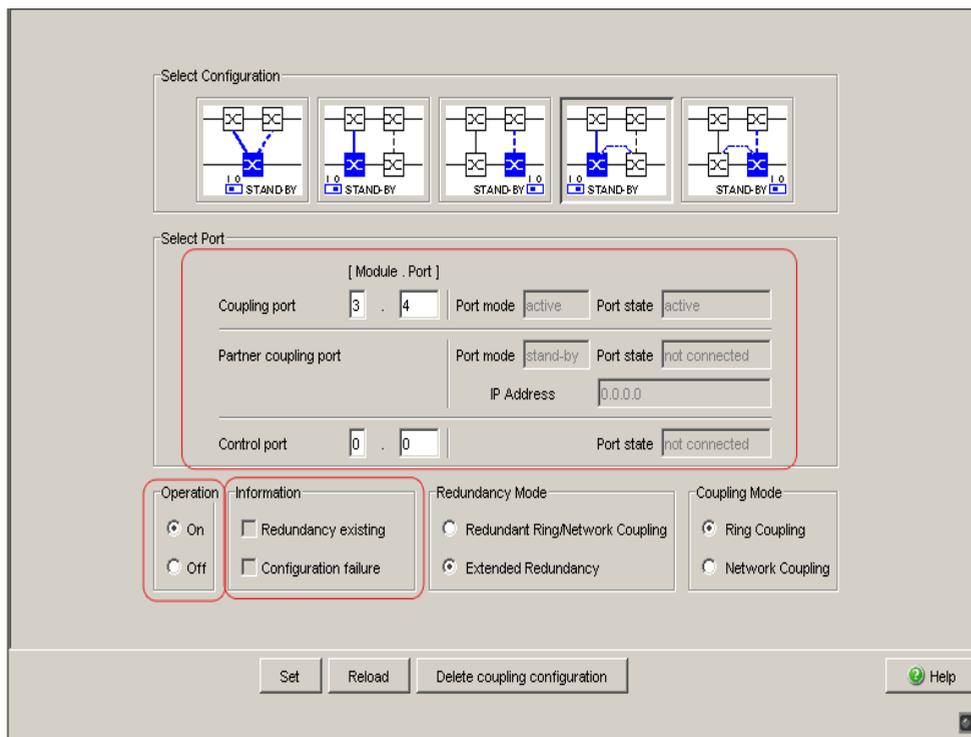

Figure 23: Two-Switch coupling with control line: Selecting the port and enabling/disabling operation
- Select the coupling port (see figure 23).
- Select the control port (see figure 23)
- Activate the function in the “Operation” frame (see figure 23)